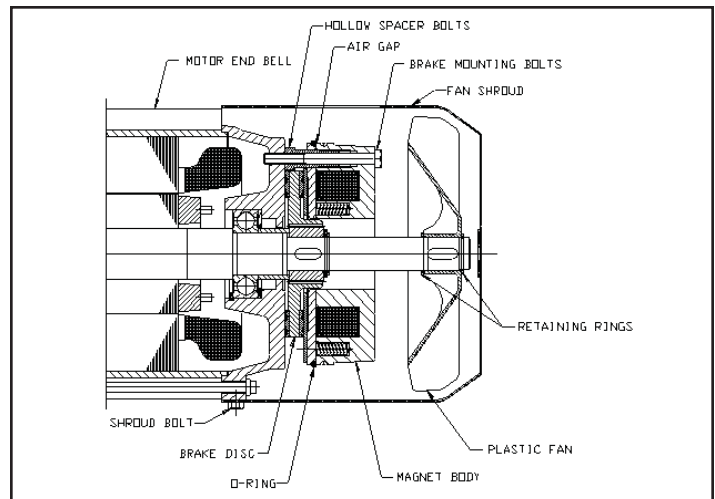

Figure 5-8. Motor Brake
- (3) Remove the four (4) bolts attaching the fan shroud to the motor and remove the fan shroud. See Figure 5-8.
- (4) Carefully roll the large O-ring from the groove over the air gap back toward the magnet body. Do not excessively stretch this O-ring.
- (5) Measure the air gap using feeler gages. If the air gap exceeds the maximum value shown in Table 5-1, the air gap must be reset.
(1) Lower hook block to the floor and relieve all load from ropes.
(2) Make sure power to the hoist is off and locked out.
(3) Remove the four (4) bolts attaching the fan shroud to the motor and remove the fan shroud. See Figure 5-8.
(4) Remove the snap ring behind the plastic fan. Carefully remove the fan and key from the motor shaft. Remove the snap ring in front of where the fan was mounted.
(5) Disconnect the two wires from the terminal block on the magnetic body.
(6) Remove the three mounting bolts that attach the brake body to the motor end bell and remove the brake body from the motor. Remove the friction disk from the motor shaft.
(7) Clean and inspect all components and working surfaces. Replace all damaged or worn components as necessary. Measure friction disk thickness and replace if less than the minimum thickness shown in Table 5-1.